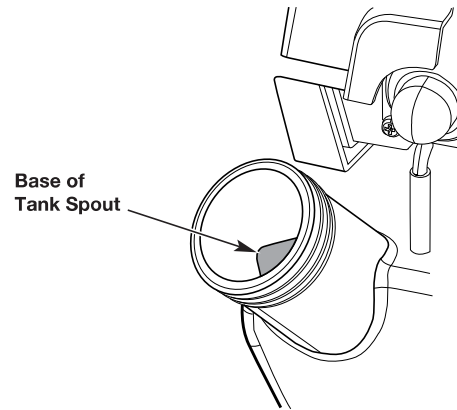

Fig. 7a
3. Place the fuel container spout into the fuel tank fill hole and fill the tank. Stop adding gas when you see that the level reaches the base of the tank spout (Fig. 7a).